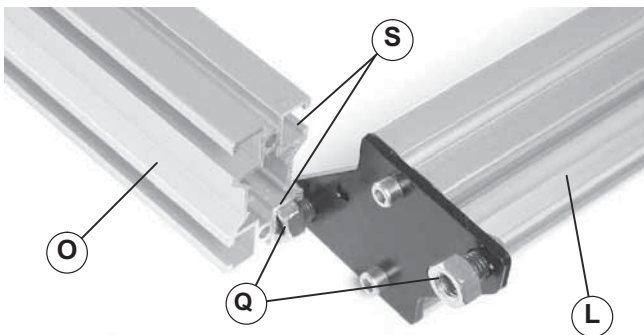

Figure 4
- Align hex nuts (Figure 4, item Q) on crossmember (L) to t-slots (S) at top of stand leg (O). Slide crossmember to bottom of stand leg. Do not tighten screws.